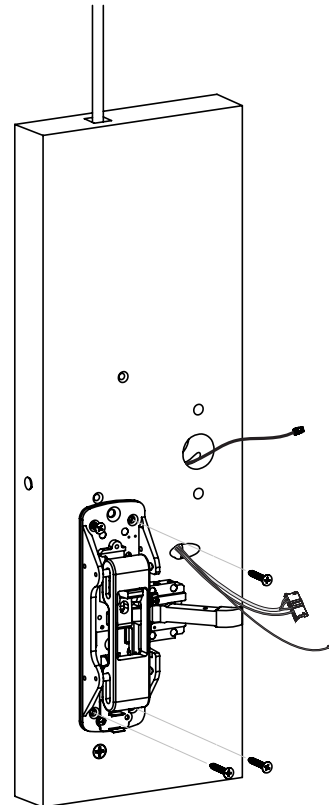

Figure 8-6
1. Fasten exit chassis to door using three (3) remaining #10 wood screws (for wood door) or four (4) #10-24 machine screws (for metal door). (Figure 8-6)